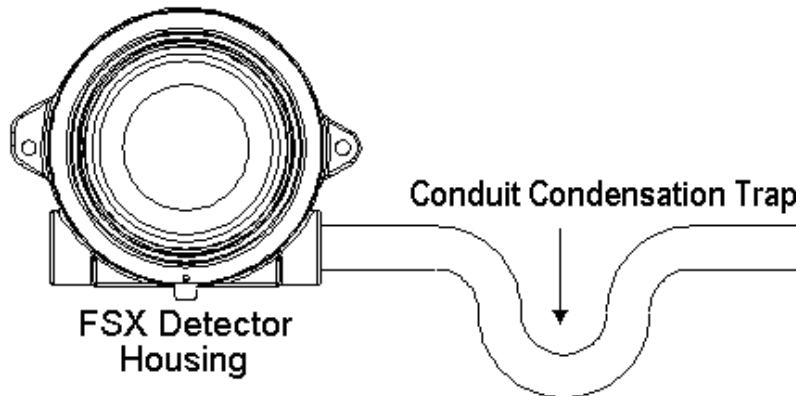

Figure 2-1
2. Detectors should not be mounted so that they look up or face the horizon (especially outdoors). Use a minimum thirty degrees (30°) downward angle with the SM4 swivel mount (see Figure 2-1).
4. The Model SM4 is a 316 Stainless Steel Swivel Mount designed for the FSC Detector housing. The adapter plate, with the two (2) screw holes (facing away), is attached to the base of the Detector (see Figure 2-1). The mounting plate, with the four (4) screw holes (facing towards), is used for mounting the SM4 to a solid surface. Each adjustment increment along an axis is calibrated to 10°. For single axis adjustments, the center section need not be installed.